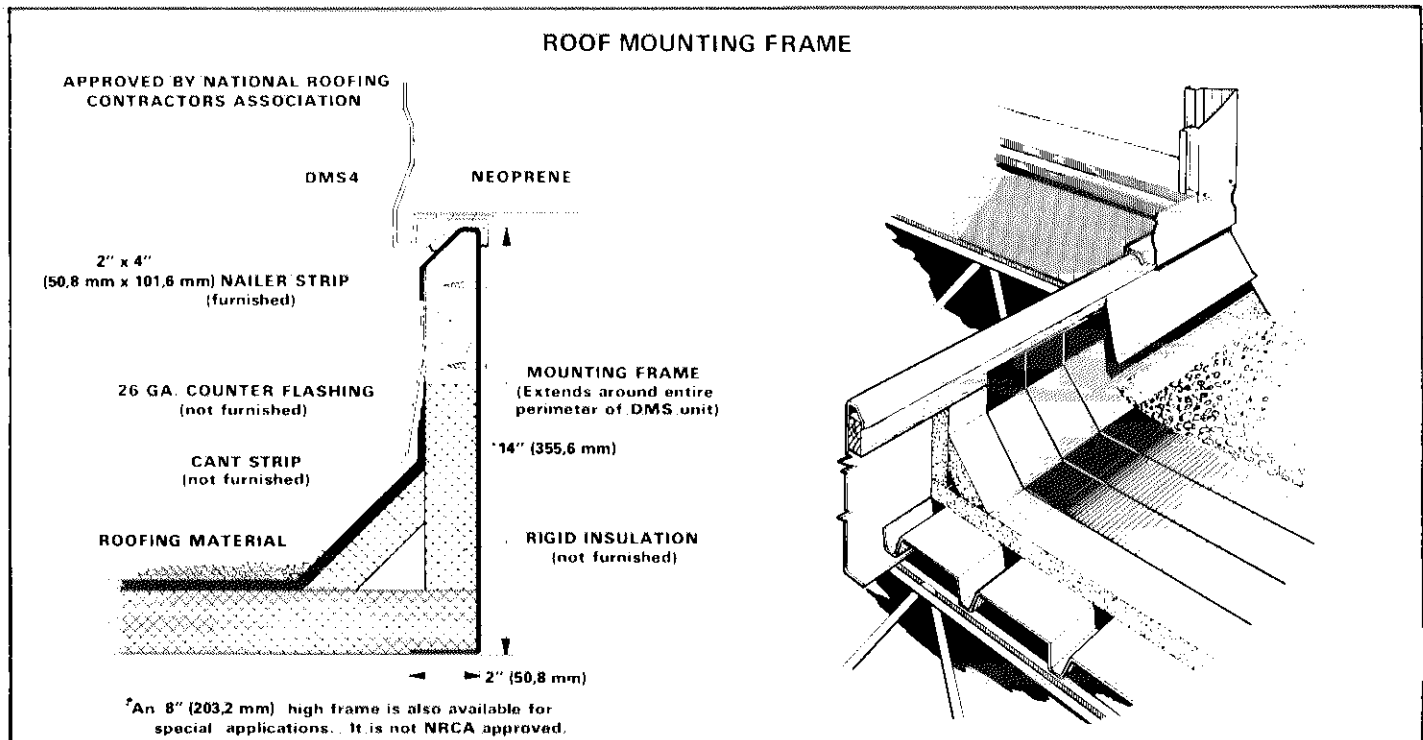

FIGURE 3
- 2 - Counter flash and seal around mounting frame using approved roofing methods. Refer to Figure 3.